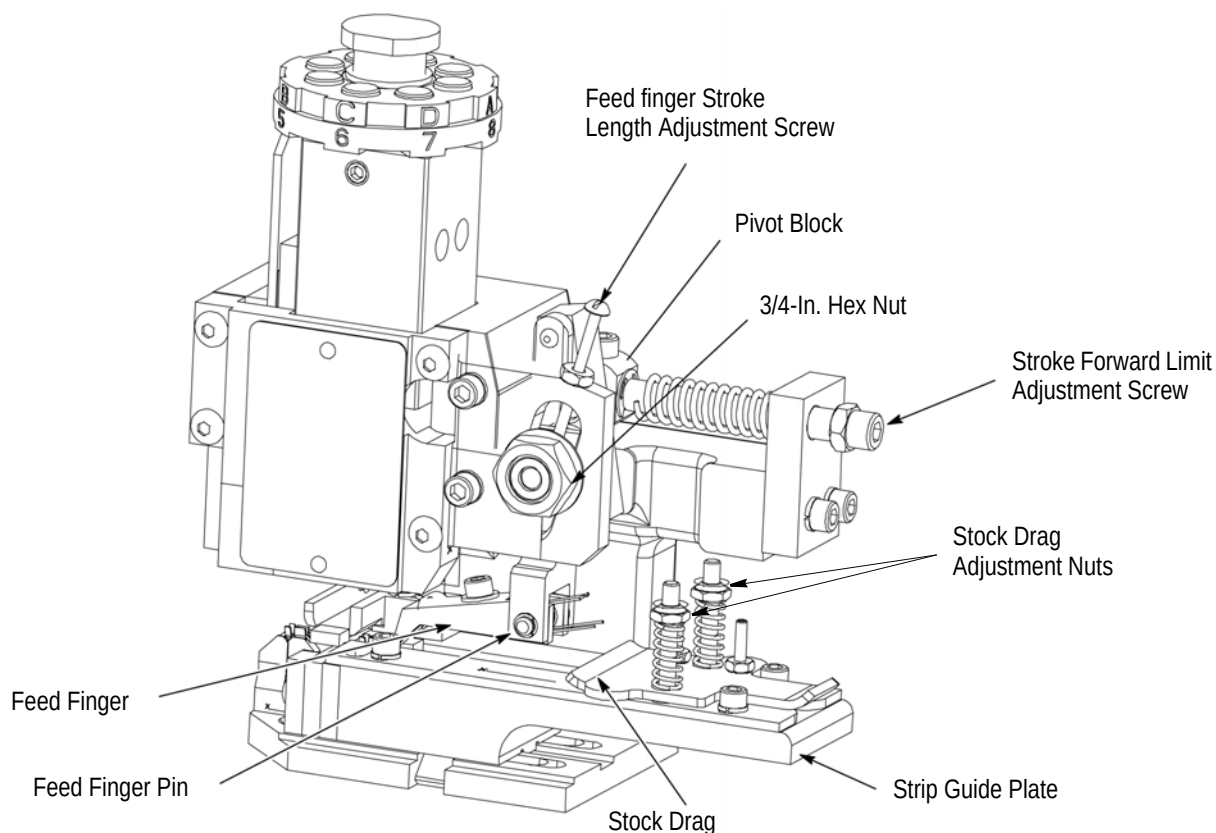

Figure 2
The main components of the applicators with mechanical feed are identified in Figure 1 and Figure 2. The ram assembly is shown in detail in Figure 3. Figure 5 and Figure 6 show the applicators with air feed.
a. Applicators with mechanical-feed systems (Figure 2) -